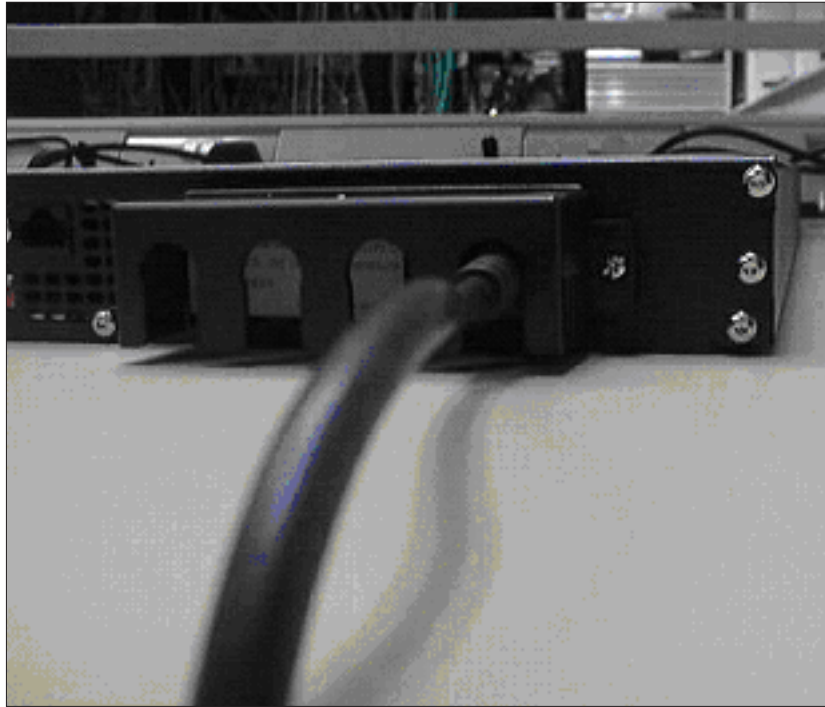

Figure 59. 2145 UPS-1U power cable retention bracket
5. Secure the bracket in place with one screw on each side, as shown in Figure 59 on page 87.